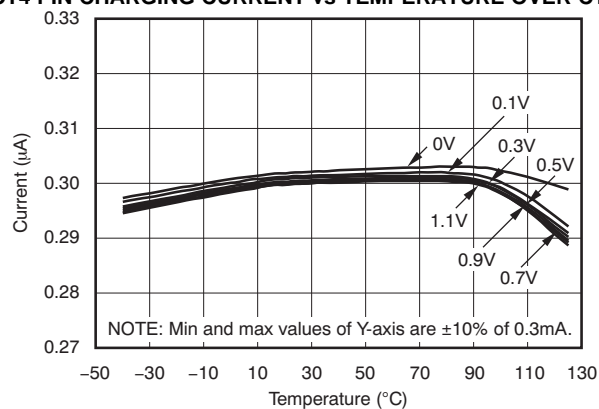

Figure 23.
- (1) Toggling  $\text{WDI}$  for a period less than  $t_{\text{WDT}}$  negatively affects  $I_{\text{VCC}}$ .
- (2) These specifications are beyond the recommended  $V_{\text{VCC}}$  range, and only define  $\overline{\text{RESETn}}$  or  $\text{RESETn}$  output performance during  $\text{VCC}$  ramp up.
- (3) The lowest supply voltage ( $V_{\text{VCC}}$ ) at which  $\overline{\text{RESETn}}$  or  $\text{RESETn}$  becomes active;  $t_{\text{RISE}}(\text{VCC}) \geq 15\mu\text{s/V}$ .
- (4) CTn (where  $n = 1, 2, 3$ , or  $4$ ) are constant current charging sources working from a range of  $0\text{V}$  to  $V_{\text{TH(CTn)}}$ , and the device is tested at  $V_{\text{CTn}} = 0.5\text{V}$ . For  $I_{\text{CT}}$  performance between  $0\text{V}$  and  $V_{\text{TH(CTn)}}$ , see Figure 23.